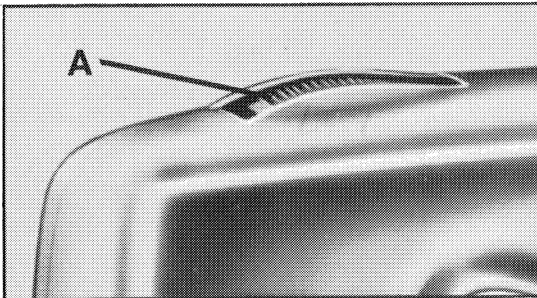

Fig. 2
Your bayonet saw has a slide type switch with actuating bar located in the top of the handle, as shown in (A) Fig. 2, you will note that the words "ON" and "OFF" appear at opposite ends of the switch plate. To start the saw, push the switch bar in that direction necessary to cover the word "OFF" leaving the word "ON" in view. To stop the saw, push the switch bar in the opposite direction so "OFF" is in view.